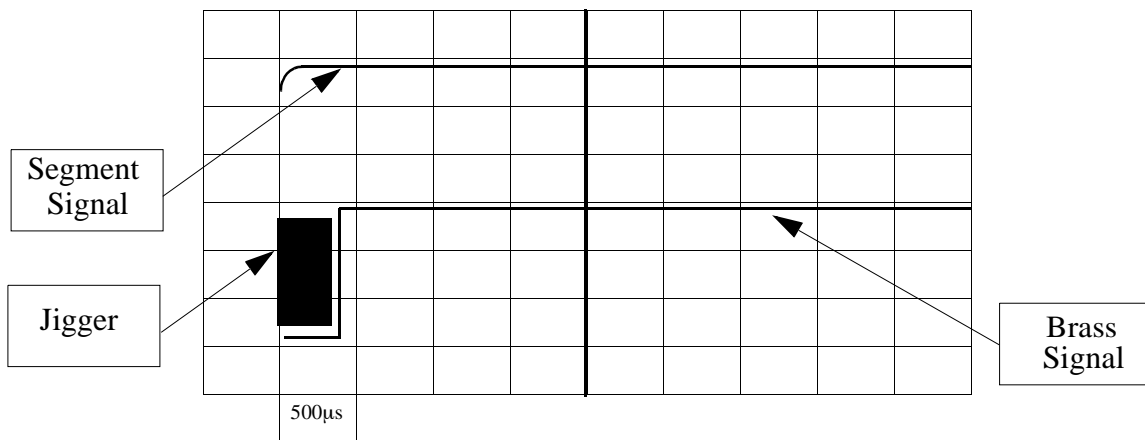
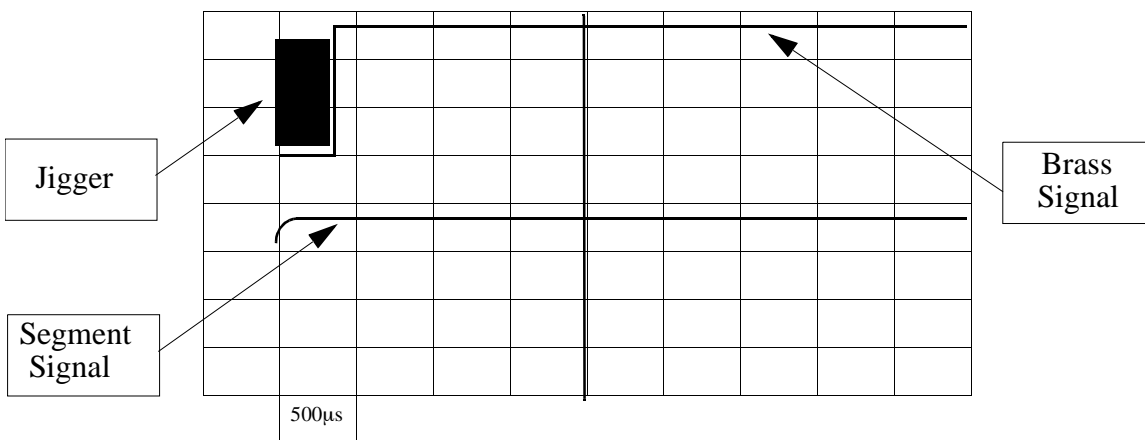

Figure 5-19 Trigger on CH1
Figure 5-20 Trigger on CH2
10. Measure from the rising edge of the BRASS to the rising edge of the SEGMENT (it does not matter which edge leads). The time measured must be less than 500 μ s (500 μ s = 0.5 ms). See Figure 5-19 and Figure 5-20.